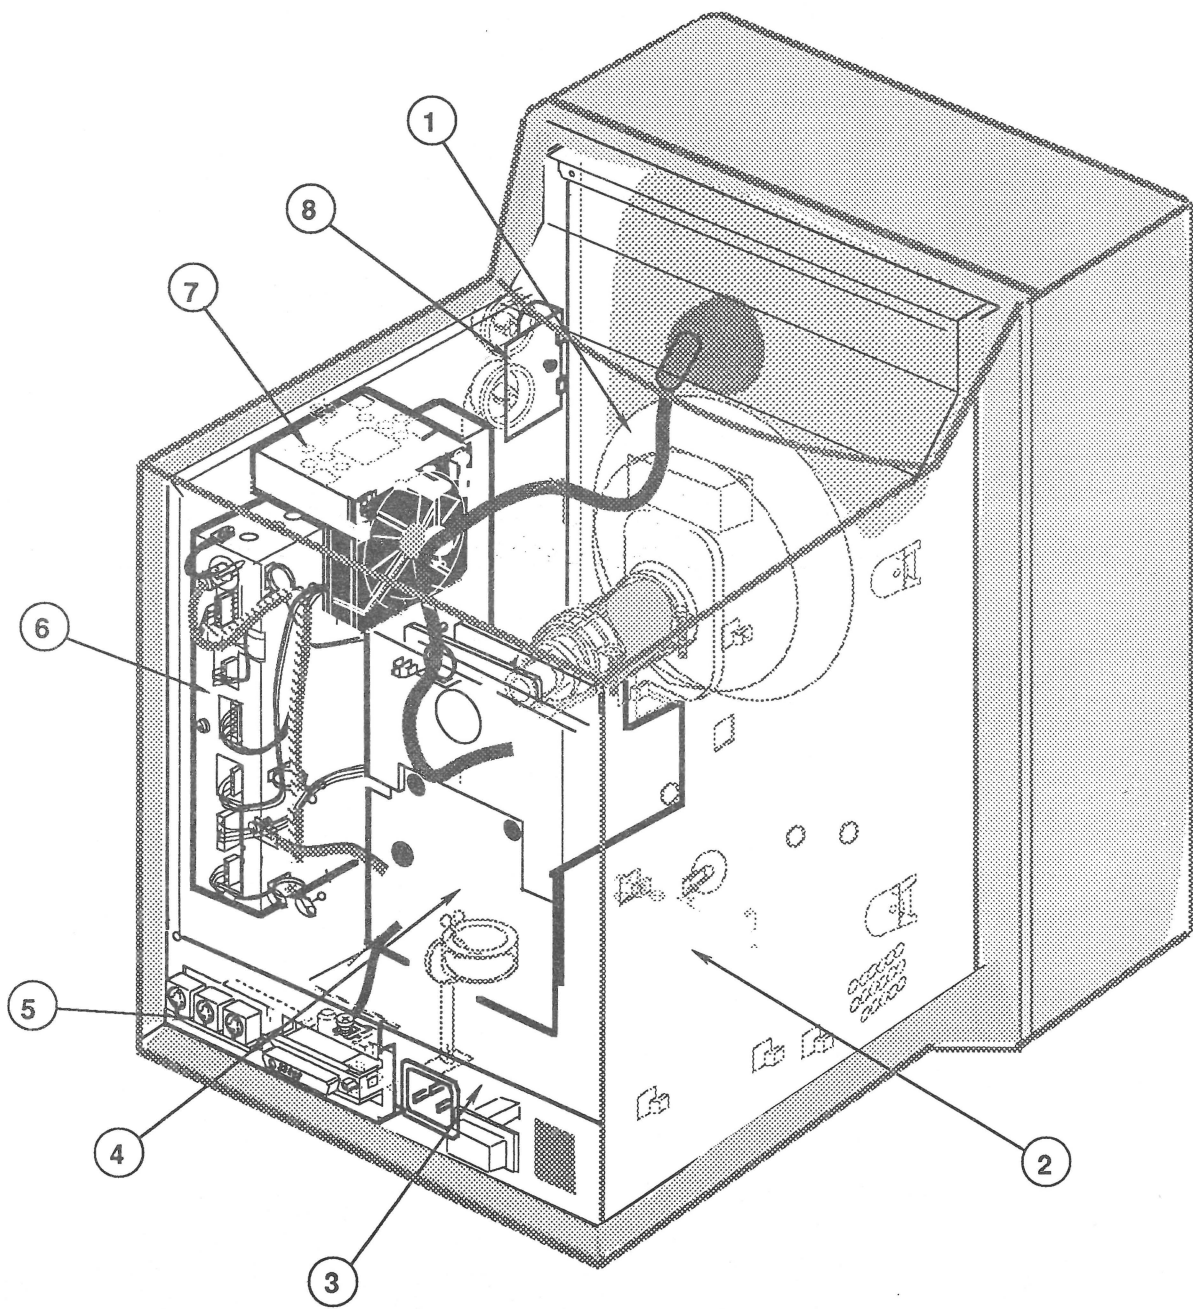

FIGURE 4
The Macintosh Portrait Display is designed for ease of maintenance and servicing. Board screening and color-coding has been used throughout, and adjustment controls are easy to access and identify (their labels are stamped on the outside of the chassis and EMI shield). The monitor chassis has also been designed with side panels that can be swung open (see Figure 4) to improve access to interior components. No new tools are required to repair and service the Portrait Display.
- CRT (Figure 4, #1)
- Main deflection board (Figure 4, #2)
- AC input assembly (with fuse) (Figure 4, #3)
- CRT board (Figure 4, #4)
- Signal input assembly (Figure 4, #5)
- Video board (Figure 4, #6)
- Fan (Figure 4, #7)
- Contrast brightness board (Figure 4, #8)